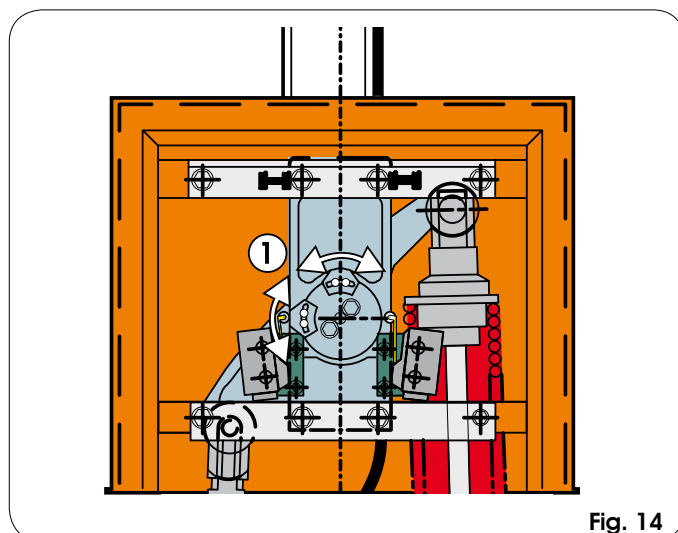

Fig. 14
- 1) Adjust the cams of the travel limit device as shown in Fig.14 ref. ① by loosening the two Allen screws. To increase the slow down angle, take the cam close to the relevant travel limit device. To reduce the slow down angle, take the cam away from the relevant travel limit device.